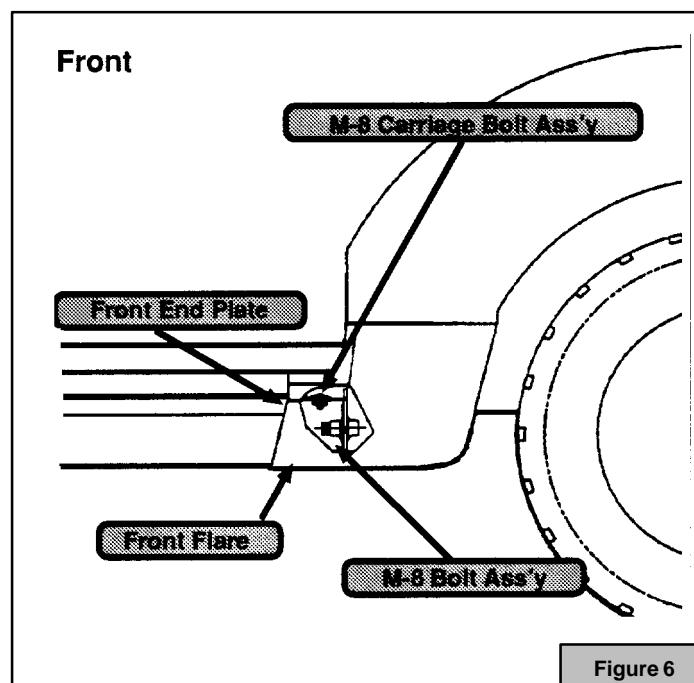

Figure 6
1. Position the front flare over the front of the running board. The top of the front flare will slide onto the front body flare (see figure 6).
2. Align the (3) front flare mounting holes over the corresponding vehicle mounting holes originally used for the mudguard. Loosely install the previously removed 10 mm mounting screws into their original position.
3. From underneath the running board, slide the front end plate against the front flare tab. When the tab is against the plate, tighten the M-8 nut to the running board with 12 ft. lbs. Then attach the tab with the provided M-8 bolt and nut and tighten to 12 ft. lbs. (refer to figure 6).